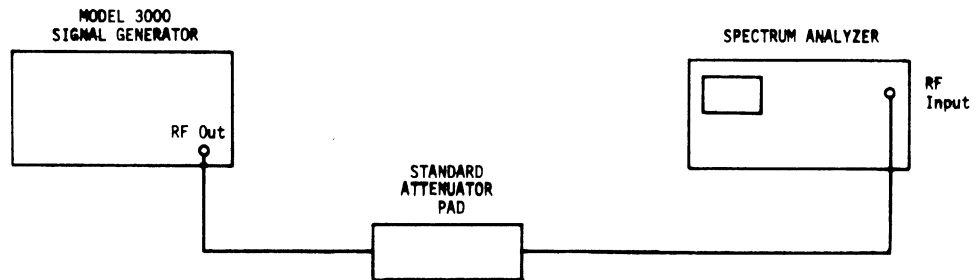

Figure 4-1. Step Attenuator Accuracy Setup
4. Disconnect the power sensor from the Signal Generator RF out connector. Connect a standard 10 dB attenuator pad to the RF out connector. Connect the output of the attenuator pad to the spectrum analyzer as shown in Figure 4-1.
NOTE: To test the OUTPUT step attenuator below -60 dBm an RF amplifier (>20 dB gain) is required. Insert the 26 dB wideband amplifier between the standard attenuator pad and the spectrum analyzer (Figure 4-1). The allowable error for the -90 dBm setting (step 11) is ± 1.5 dB. The OUTPUT step attenuator can be tested down to the -130 dBm position if a 40 dB RF amplifier is used and if precautions are taken to properly shield the RF output from the Signal Generator.